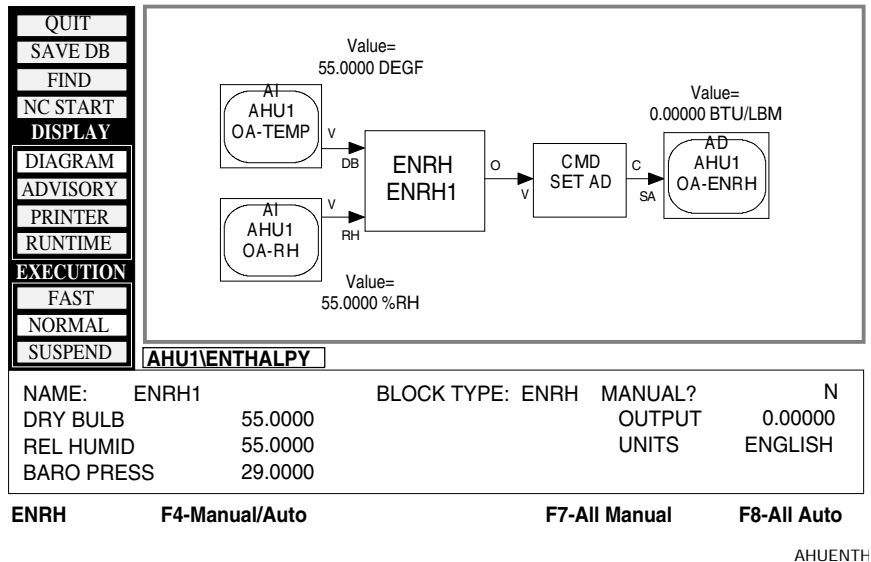

Figure 3: AHU1\ENTHALPY Process Compound Displayed in Simulator Before First Execution of Process
While preparing the file, paste down analog displays next to the AHU1\OA-TEMP, AHU1\OA-RH, and AHU1\OA-ENRH blocks (Figure 3). Associate the analog displays with the VALUE attributes of the objects.
Next to the AHU1\OA-TEMP analog display, type text strings stating **Value =** and **Deg F**. Next to the AHU1\OA-RH analog display, type text strings stating **Value =** and **% RH**. Next to the AHU1\OA-ENRH analog display, type text strings stating **Value =** and **BTU/LBM** (as shown in Figure 3).
7. Start the Simulator by double-clicking on the Tools icon and clicking left on the SIM option. The process compound should appear on the Simulator screen as shown in Figure 3. If the ENRH1 fields are not displayed in the Block window, use the mouse to select the ENRH1 block and click left.